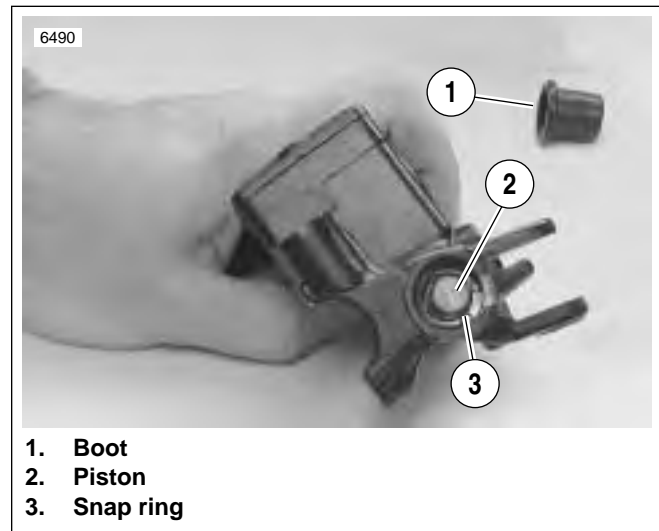

Figure 2-31. Snap Ring
4. See Figure 2-31. Compress piston (2) and remove rubber boot (1).
5. Depress piston assembly and remove internal snap ring (3). Discard snap ring.